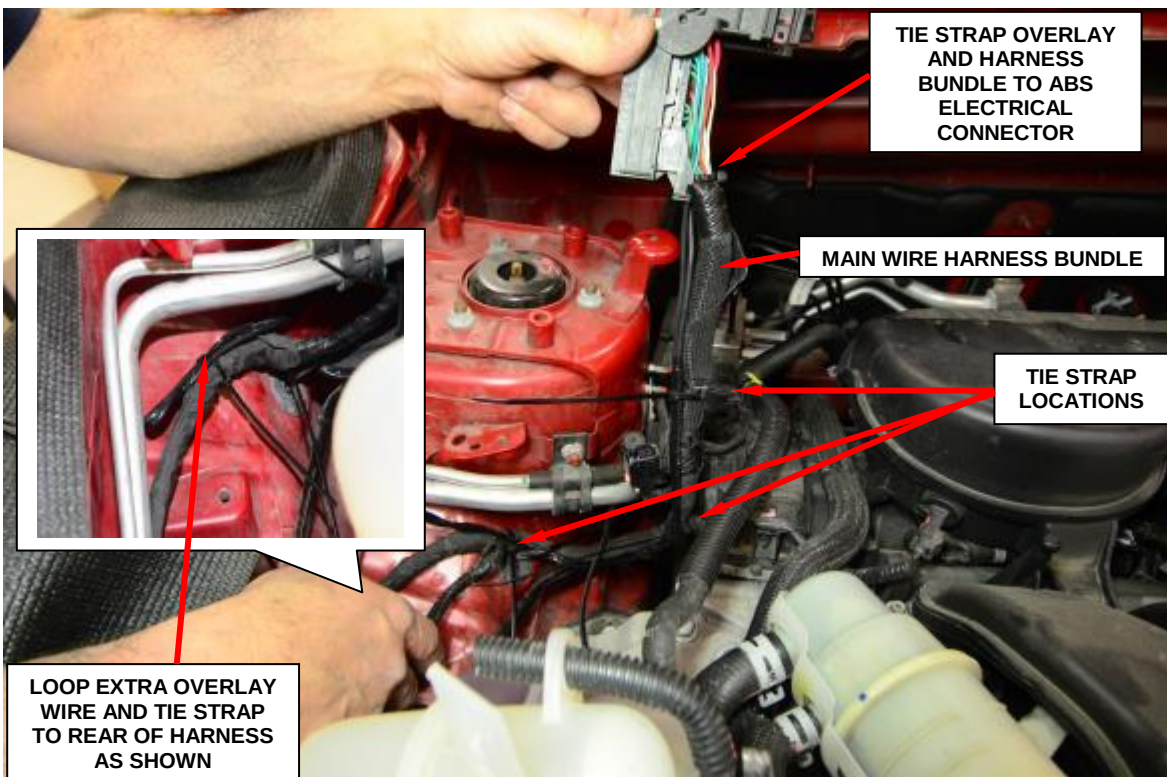

Figure 19 – Ground Circuit Overlay
20. Secure the ground circuit overlay to the main wire harness bundle using four supplied tie straps (Figure 19).
21. Loop the extra ground overlay wire length and secure it with one of the supplied tie straps to the main wire harness bundle as shown (Figure 19).
13. Loosen the two ICU mounting screws as necessary allowing the ICU mounting bracket to slide down over the mounting screws and hang the assembly in place. Tighten the two ICU mounting screws to 17 ft. lbs. (23 N·m) (Figure 19).